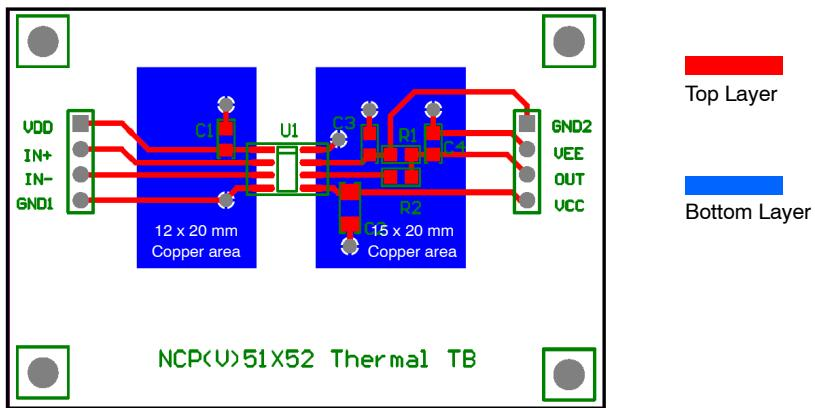

Figure 5. Reference Layout for the Type-B
8. As specified for a reference layout shown in Figure 5. The DUT is mounted on a 60 x 40 x 1.6 mm FR4 substrate with an additional heat spreading copper of 240 mm2/300 mm2 (Primary/Secondary). The copper thickness is 1oz and test conditions is under natural convection or zero air flow.